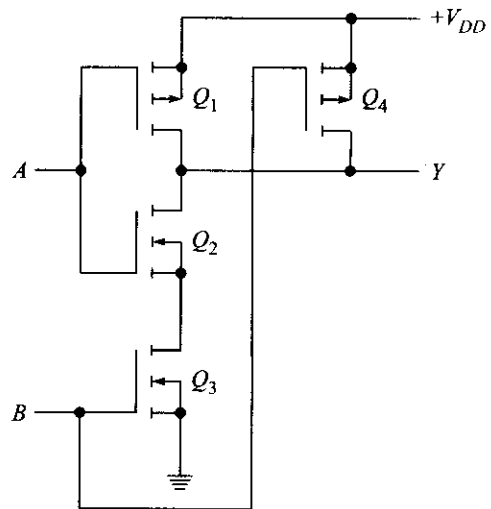

Fig. 14.33 CMOS NAND gate
Figure 14.33 shows a CMOS NAND gate. The complementary design of input and output stages is typical of CMOS devices. Notice that Q_1 and Q_2 form one complementary connection; Q_3 and Q_4 form another. Visualize these transistors as switches. Then a low A input will close Q_1 and open Q_2 ; a high A input will open Q_1 and close Q_2 . Similarly, a low B input will open Q_3 , and close Q_4 ; a high B input will close Q_3 and open Q_4 .
In Fig. 14.33, the Y output is pulled up to the supply voltage when either Q_1 or Q_4 is conducting. The output is pulled down to ground only when Q_2 and Q_3 are conducting. If you keep this in mind, it simplifies the following discussion.
Table 14.6 summarizes all input-output possibilities. As you can see, this is the truth table of a positive NAND gate. To produce the positive AND function, we can connect the output of Fig. 14.33 to a CMOS inverter.
19. What kind of transistors are shown in Fig. 14.33?